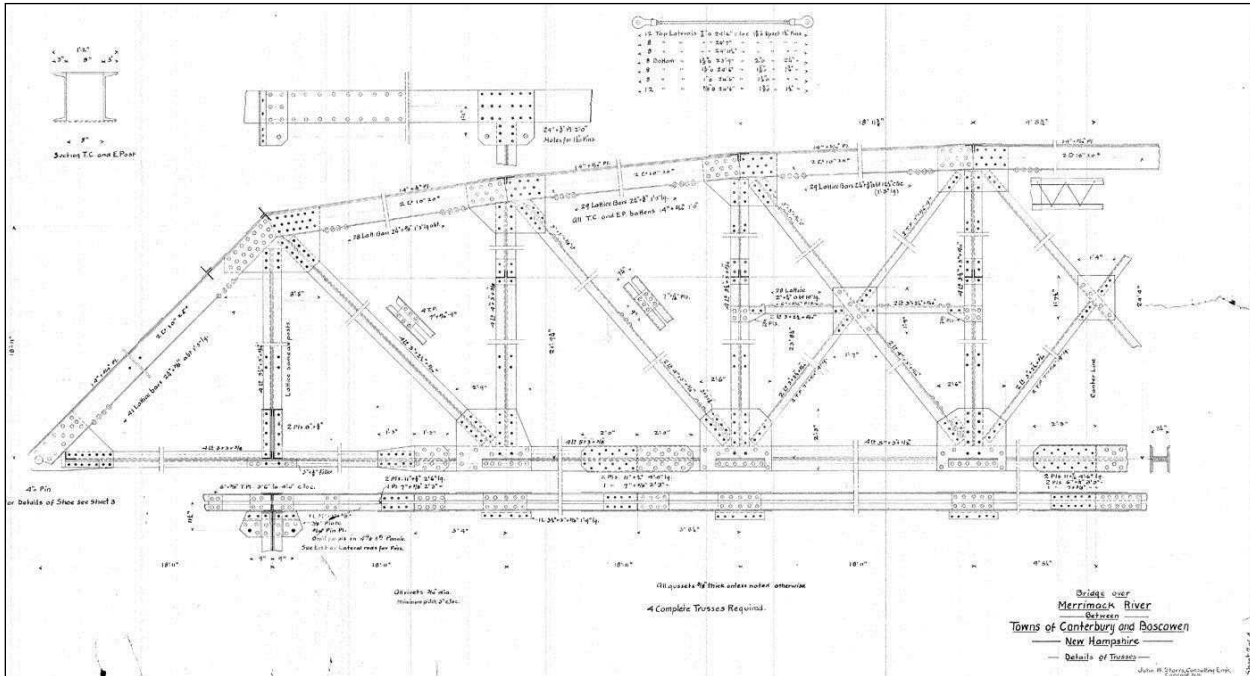

FIGURE 7: Boscawen-Canterbury 132/085 (1907). Clip from original plans by John Storrs, sheet 2 of 4, 1907 (NHDOT Plan files).
- FIGURE 7: Boscawen-Canterbury 132/085 over Merrimack River, 1907, drawing.